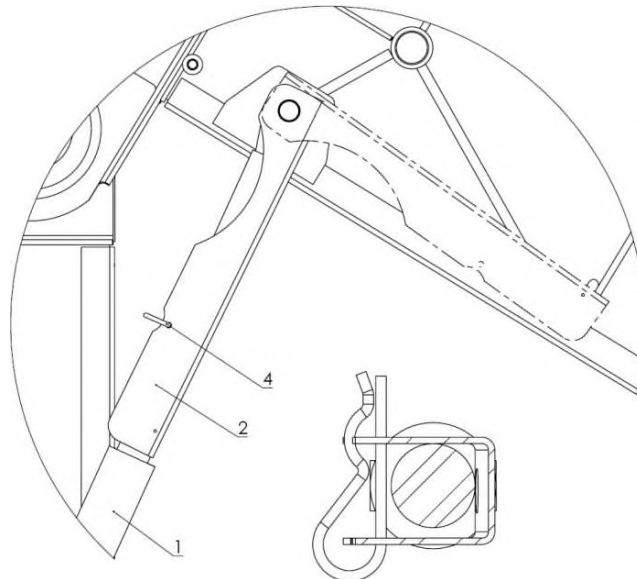

Figure 29. Locks for securing the actuators
Secure the raised baler cover in its upper position, as shown in Figure 29. On both sides of the baler, use clamps (2) fixed to the upper pins of the hydraulic cylinders (1) to secure them. Move the clamps (2) fully upwards so that they engage with the stretched cylinder rods. Lock them with locking pins (4) against unauthorised cover closing. Unlock the clamps of the cover after completing the planned activities.